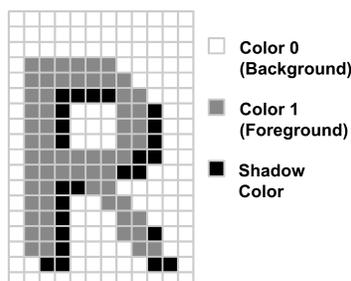

Figure 21. Shading
3. **Shadowing**—Shadowing can be added to two-color characters by choosing the appropriate attribute value for the character. When a character is shadowed, a shadow pixel is added to the lower right edges of the color 1 image, as shown in Figure 21. The color of the shadow is determined by the value in the color palette register EF3, which is normally set to black.